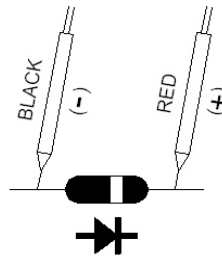

Fig. 3
- b. When connected as shown in Fig. 3, a reverse check on the diode is made. If the diode under test is good, " 1 " will be displayed. If the diode under test is defective, " .000 " or other numbers will be displayed. Proper diode testing should include both steps a. and b. above.